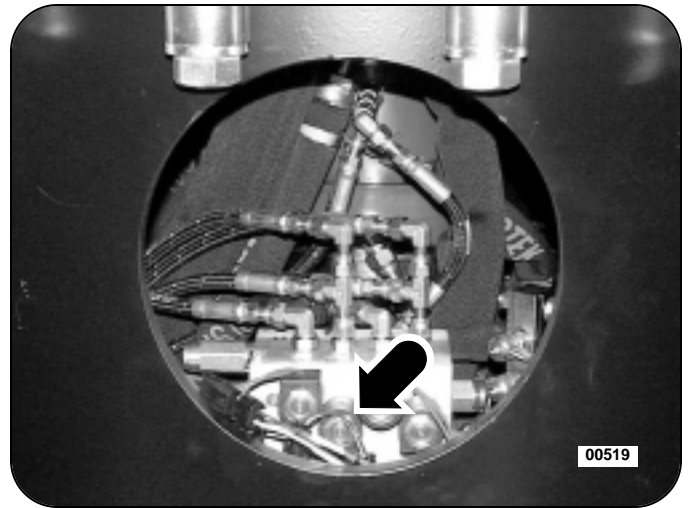

Figure 9: Lower Solenoid Manifold
2. Locate and disconnect the parking brake solenoid coil harness (yellow wire) at the lower solenoid manifold located in the right side of the upper turntable riser. See Figure 9. This will prevent the parking brake from releasing.